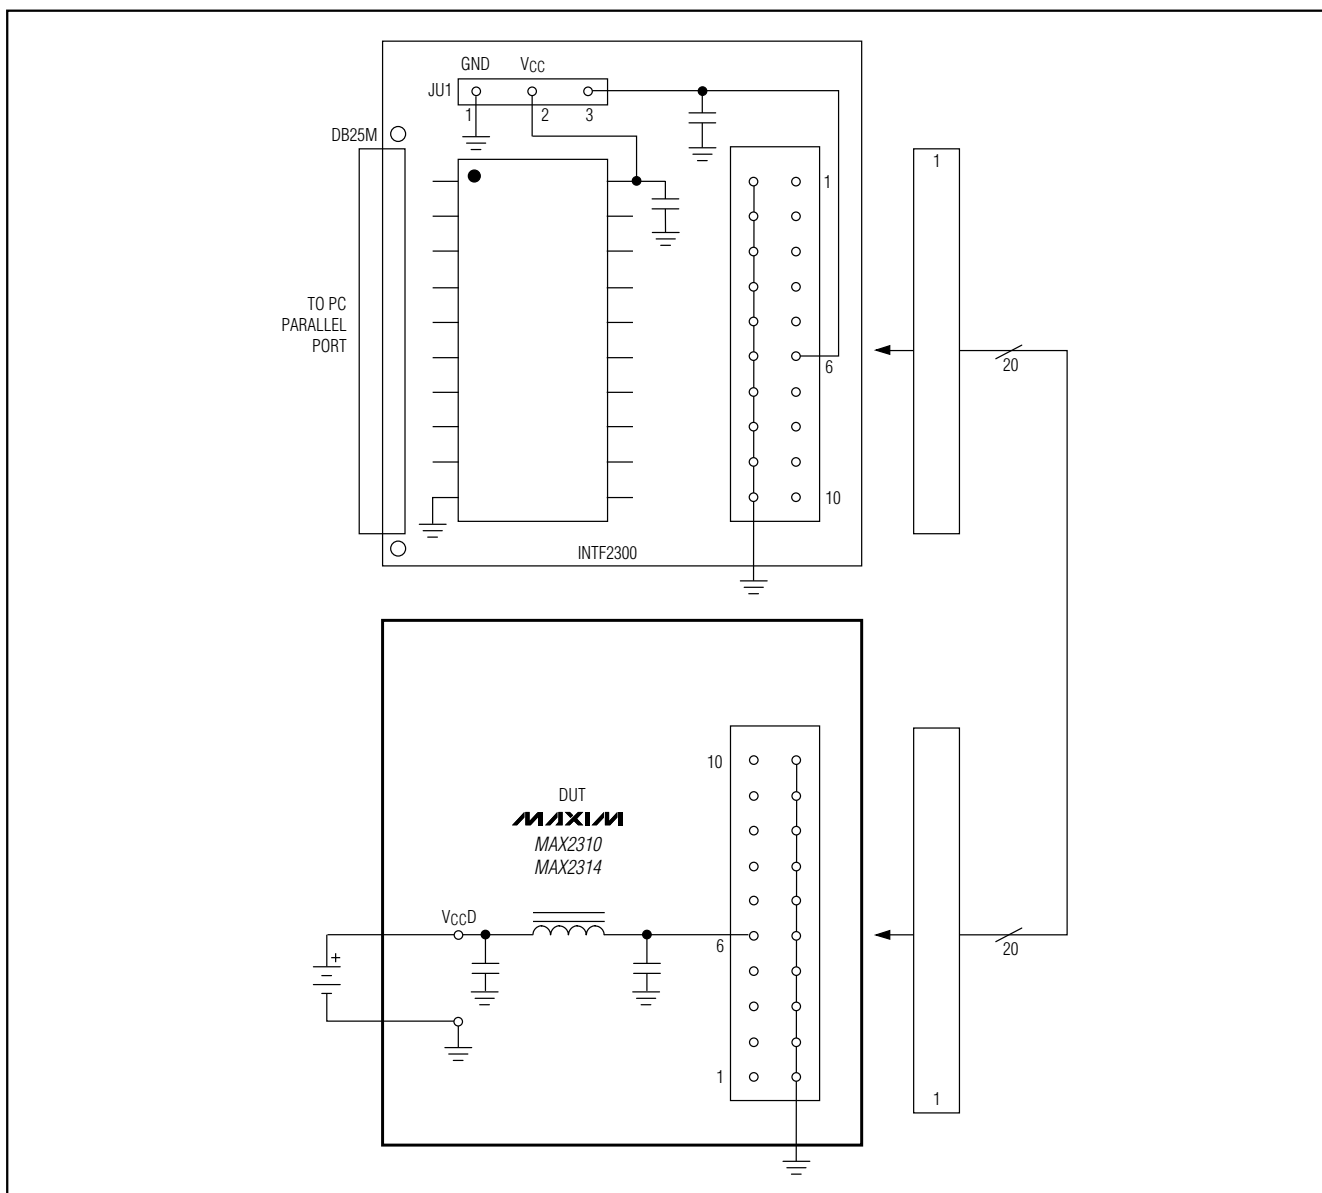

Figure 1. INTF2300 Interface Board
- 2) Connect the INTF2300 interface cable as shown in Figure 1. (Pin 1 of the interface cable corresponds to the red wire; pin 1 is designated in silk screen on each of the PC boards.)
The interface port is designed to use a 20-pin ribbon cable (Figure 1). Ten pins are signal lines, and the other 10 pins are digital grounds. Pin 1 of the interface cable is red. Pin 1 is also designated in silk screen on each of the PC boards.
also provides buffering and EMI filtering. The recommended operating supply voltage range is +2.7V to +3.6V. For operation of the MAX2312/MAX2316 above +3.6V, jumper JU1 may be removed and an external supply voltage of +3.6V may be applied between VCC (pin 2) and GND (pin 1) (Figure 1).